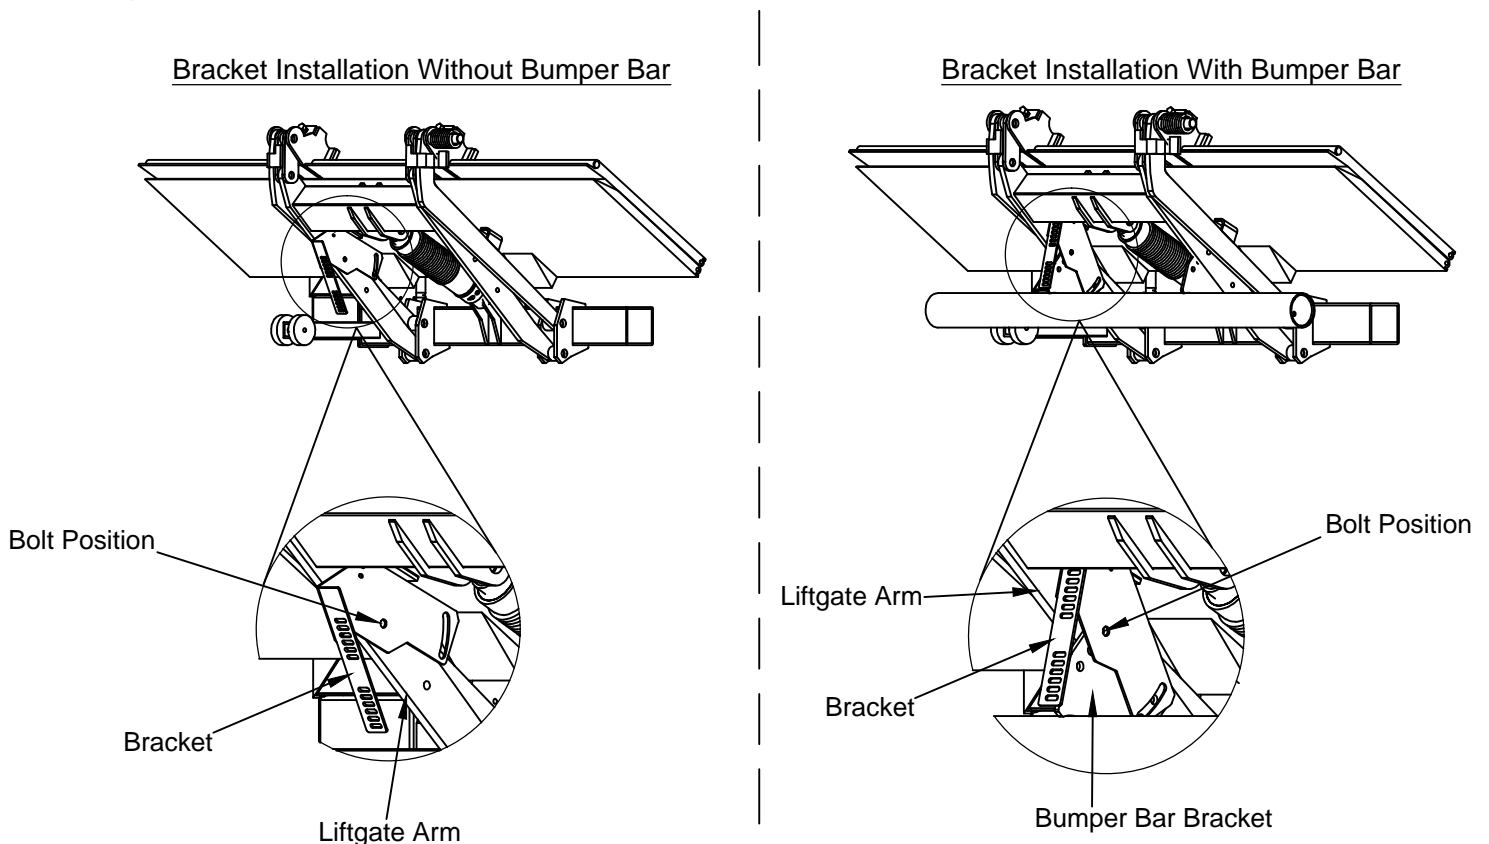

Figure 5: Bracket installation.
1. **Install** the brackets, with the provided 1/2-13x2" bolt, 1/2" flat washer and 1/2-13 locking nut, on the liftgate arms. If your gate has a bumper bar installed, bolt to the hole in the bumper bar bracket that attaches to the liftgate arm. Do not tighten at this time (Figure 5)